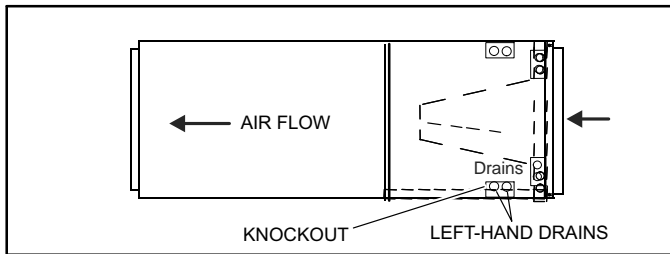

Figure 24. Left-Hand Discharge Configuration
- The horizontal configuration is shown in figure 24.